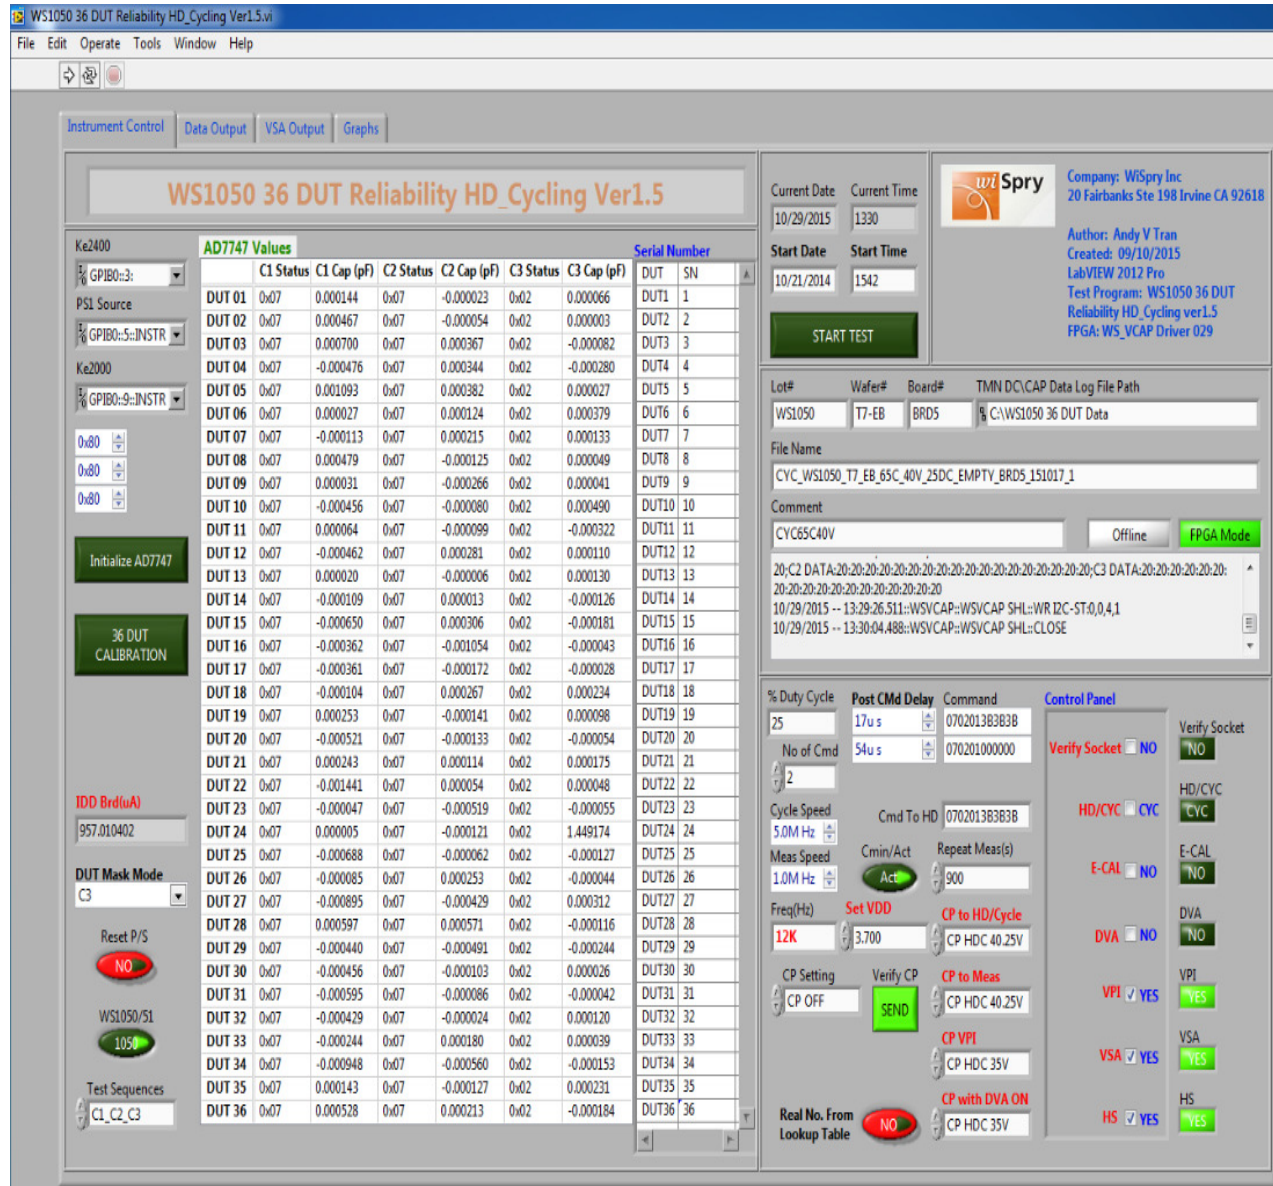

Figure 2 Front Panel of the WS1050 36 DUT Stress Test Program
7.5.2 Figure 2 shows the front panel of the test program (for the WS1050 version 1.5)